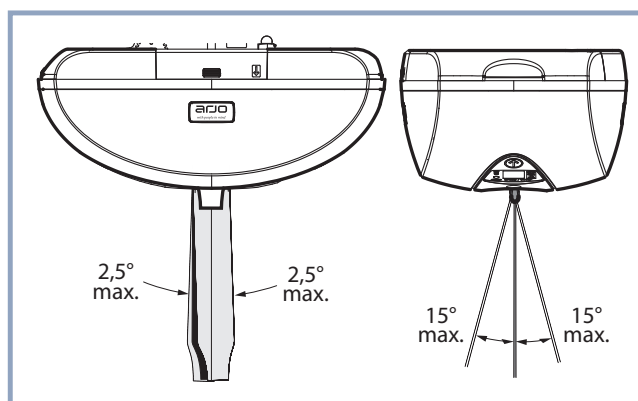

Figure 7
- When raising or lowering the patient, always remember to keep the strap as straight as possible for security purposes and to prevent premature wear of the lift's components. Never exceed maximum values as shown in Figure 7.